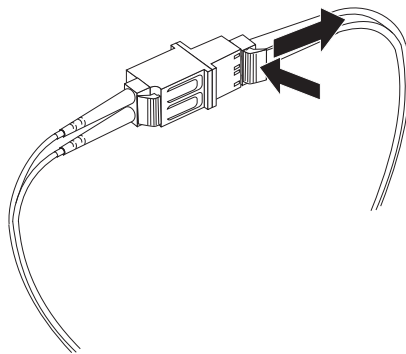

Figure 36. Removing the LC-LC Fibre Channel cable from an LC-SC Fibre Channel cable adapter
2. Carefully pull the connector to remove it. Ensure that you grasp the connector and not the cable when removing the LC-LC cable from the LC-SC cable adapter as shown in Figure 36.